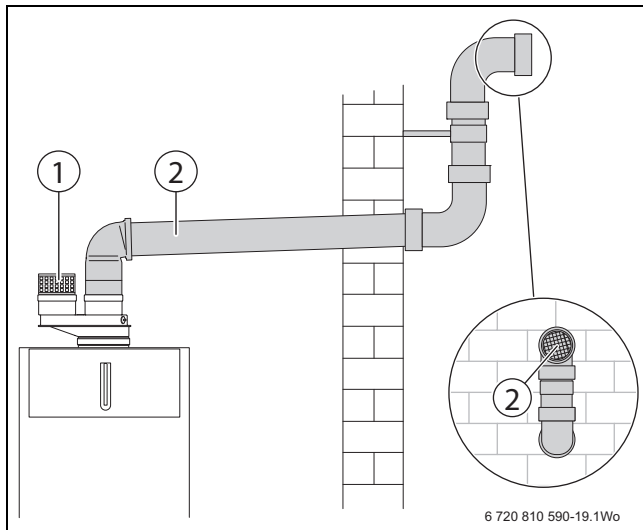
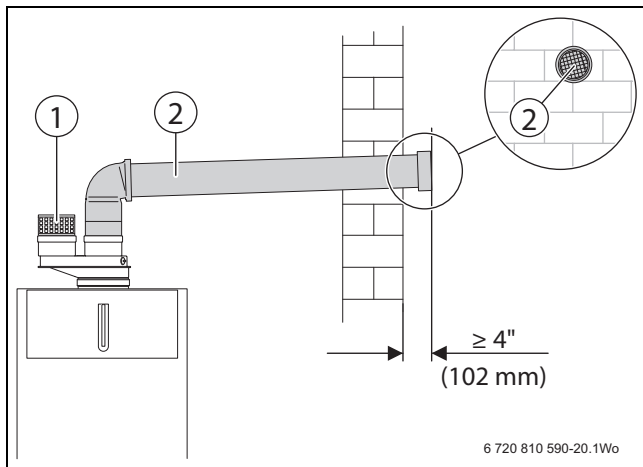

Fig. 32 Horizontal venting system (room air only)
Fig. 33 Horizontal venting system (room air only)
**Key to fig. 32 and fig. 33:**
Installations→ Fig. 32, 33, 34, 36, 37 and 39